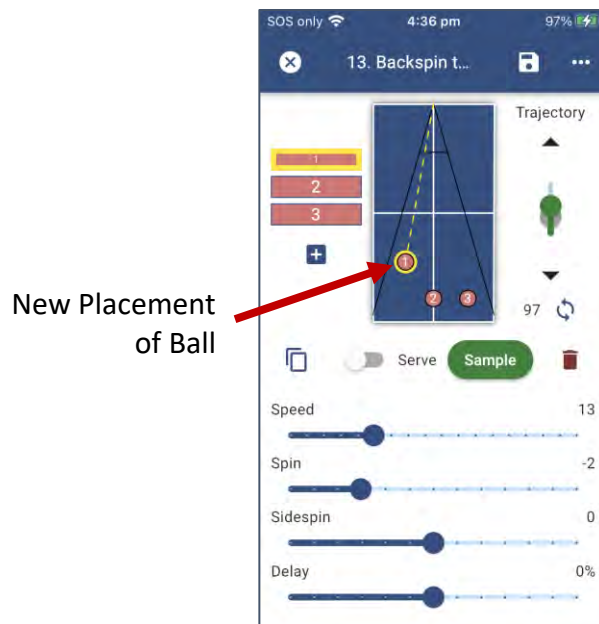

Figure 3-61
1. From the Main Drills screen, scroll as necessary, and choose the Drill named “13. Backspin to BH, Mid, FH”, by touching the Ping Pong table under the Drill name. (Figure 3-61)